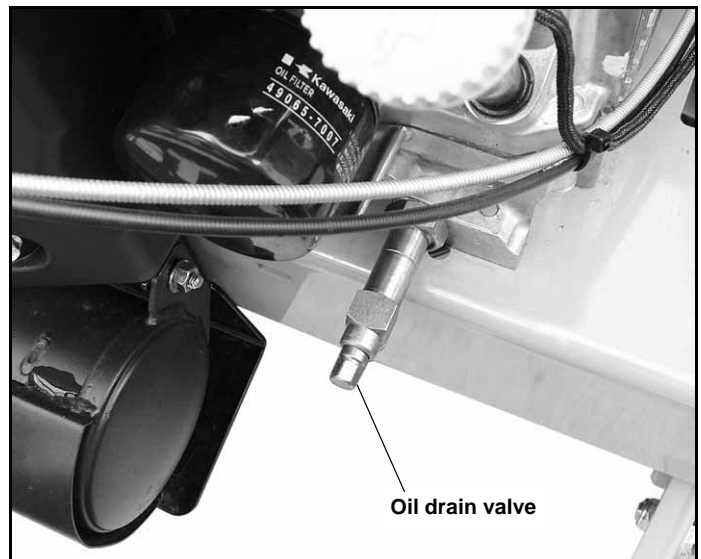

Figure 4-5
1. Locate the oil drain valve on the engine. Figure 4-5,